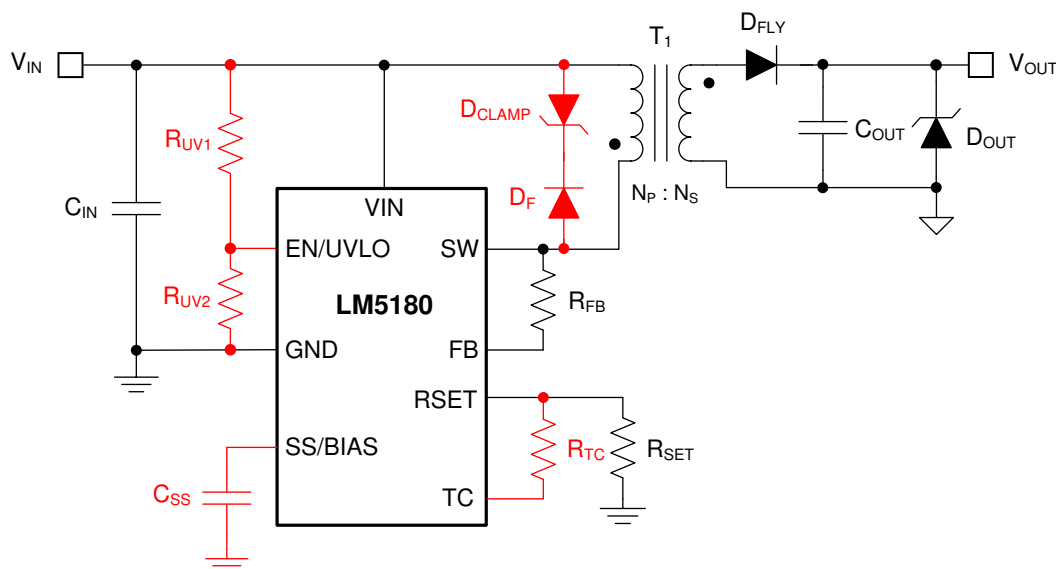

图 19. LM5180 Flyback Converter Schematic (Optional Components in Red)
Figure 19 shows a typical schematic of the LM5180 PSR flyback circuit. Components denoted in red are optional depending on the application requirements.
To minimize output voltage regulation error, the LM5180 senses the reflected secondary voltage when the secondary current reaches zero. The feedback (FB) resistor, which is connected between SW and FB as shown in 图 19, is determined using 公式 8, where R_{SET} is nominally 12.1 kΩ.